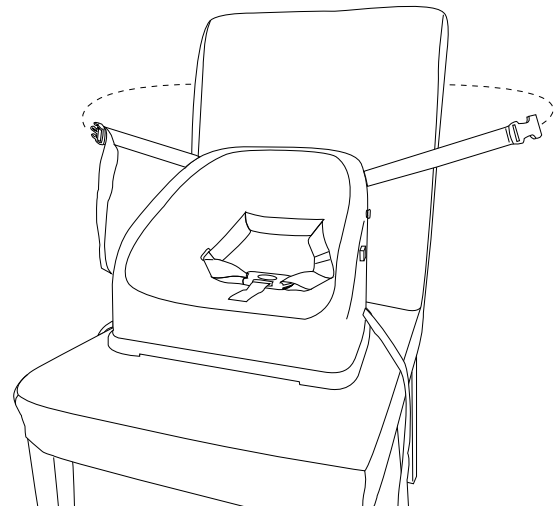

Fig. 23
- Wrap the top straps around the back of the chair and buckle the straps (Fig 23).